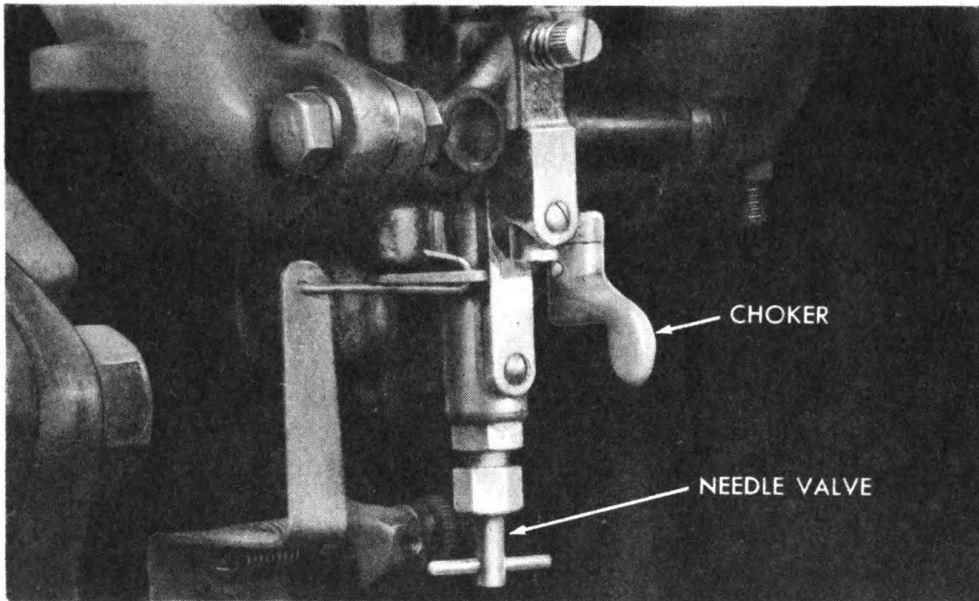

Figure 10—Choker and Needle Valve
a. **Choker.**—A butterfly valve, located in the carburetor air intake and equipped with a handle to permit manual adjustment of choker (figure 10). Choker is used when starting engine. When choker (butterfly valve) is closed, air is shut off from carburetor permitting a greater amount of gasoline to be drawn into combustion chamber.
b. **Needle Valve.**—An adjustable valve, located on the carburetor (figure 10), which controls the fuel and air mixture passing into the combustion chamber. When starting engine, needle valve must be opened one and one-half turns to the left (counterclockwise); then adjusted to the best running position as the engine warms up.